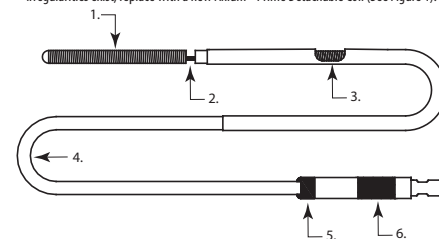

Figure 1
- Slowly advance the Axium™ Prime Detachable Coil out of the introducer sheath into the palm of your gloved hand and inspect for irregularities of the coil or the detachment zone. Due to potential risks of irregularities, a visual proof should be performed. If irregularities exist, replace with a new Axium™ Prime Detachable Coil (See Figure 1).